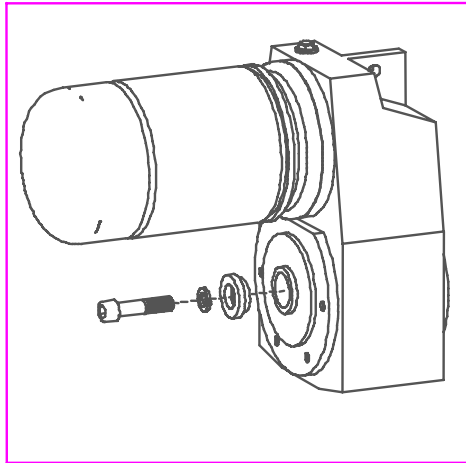

Figure 2.4b - Fastening the Motor
7. Fasten the locking bolt, spring washer and stepped spacer to the spirals drive shaft in order to fasten this in the gearboxes drive bore (see Fig 2.4b). When the spiral's drive shaft is firmly positioned in the drive bore the locking bolt should be tightened to the torque specified (refer Sect. 2.1).